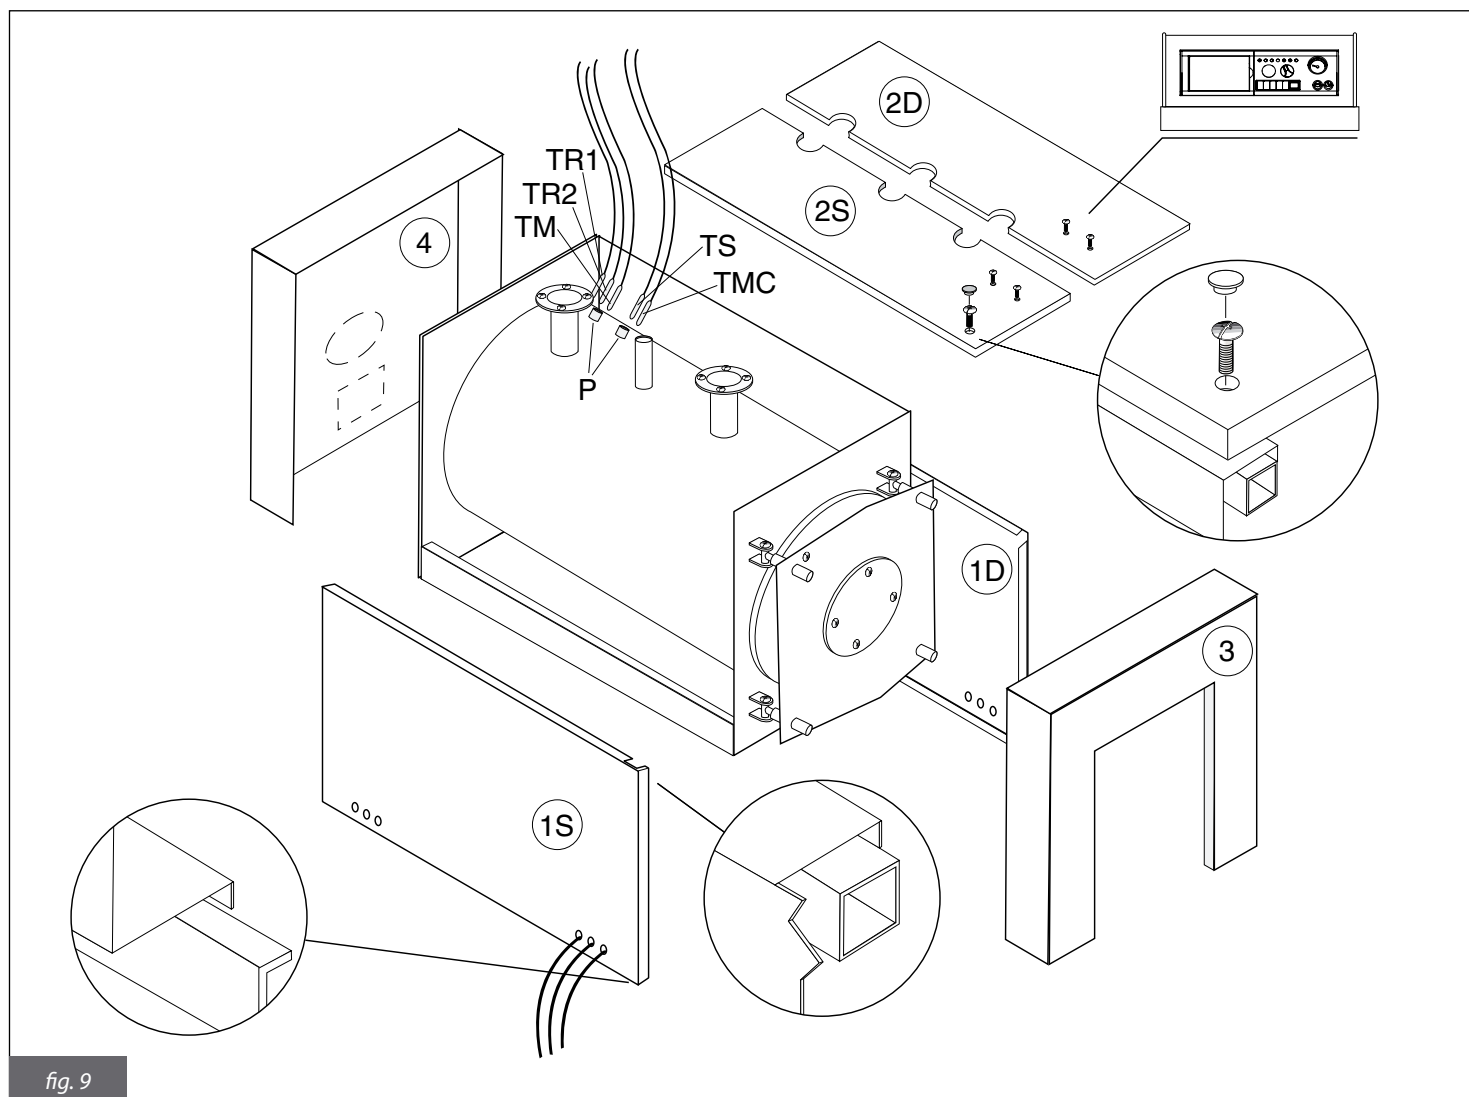

fig. 9
4.1. Boiler housing panels for RODI DUAL and RODI DUAL HR 70÷400 (fig. 9)
- Wrap the glass wool around the boiler body, ensuring that the bulb-carrying wells (P) located on the right-hand side remain visible.